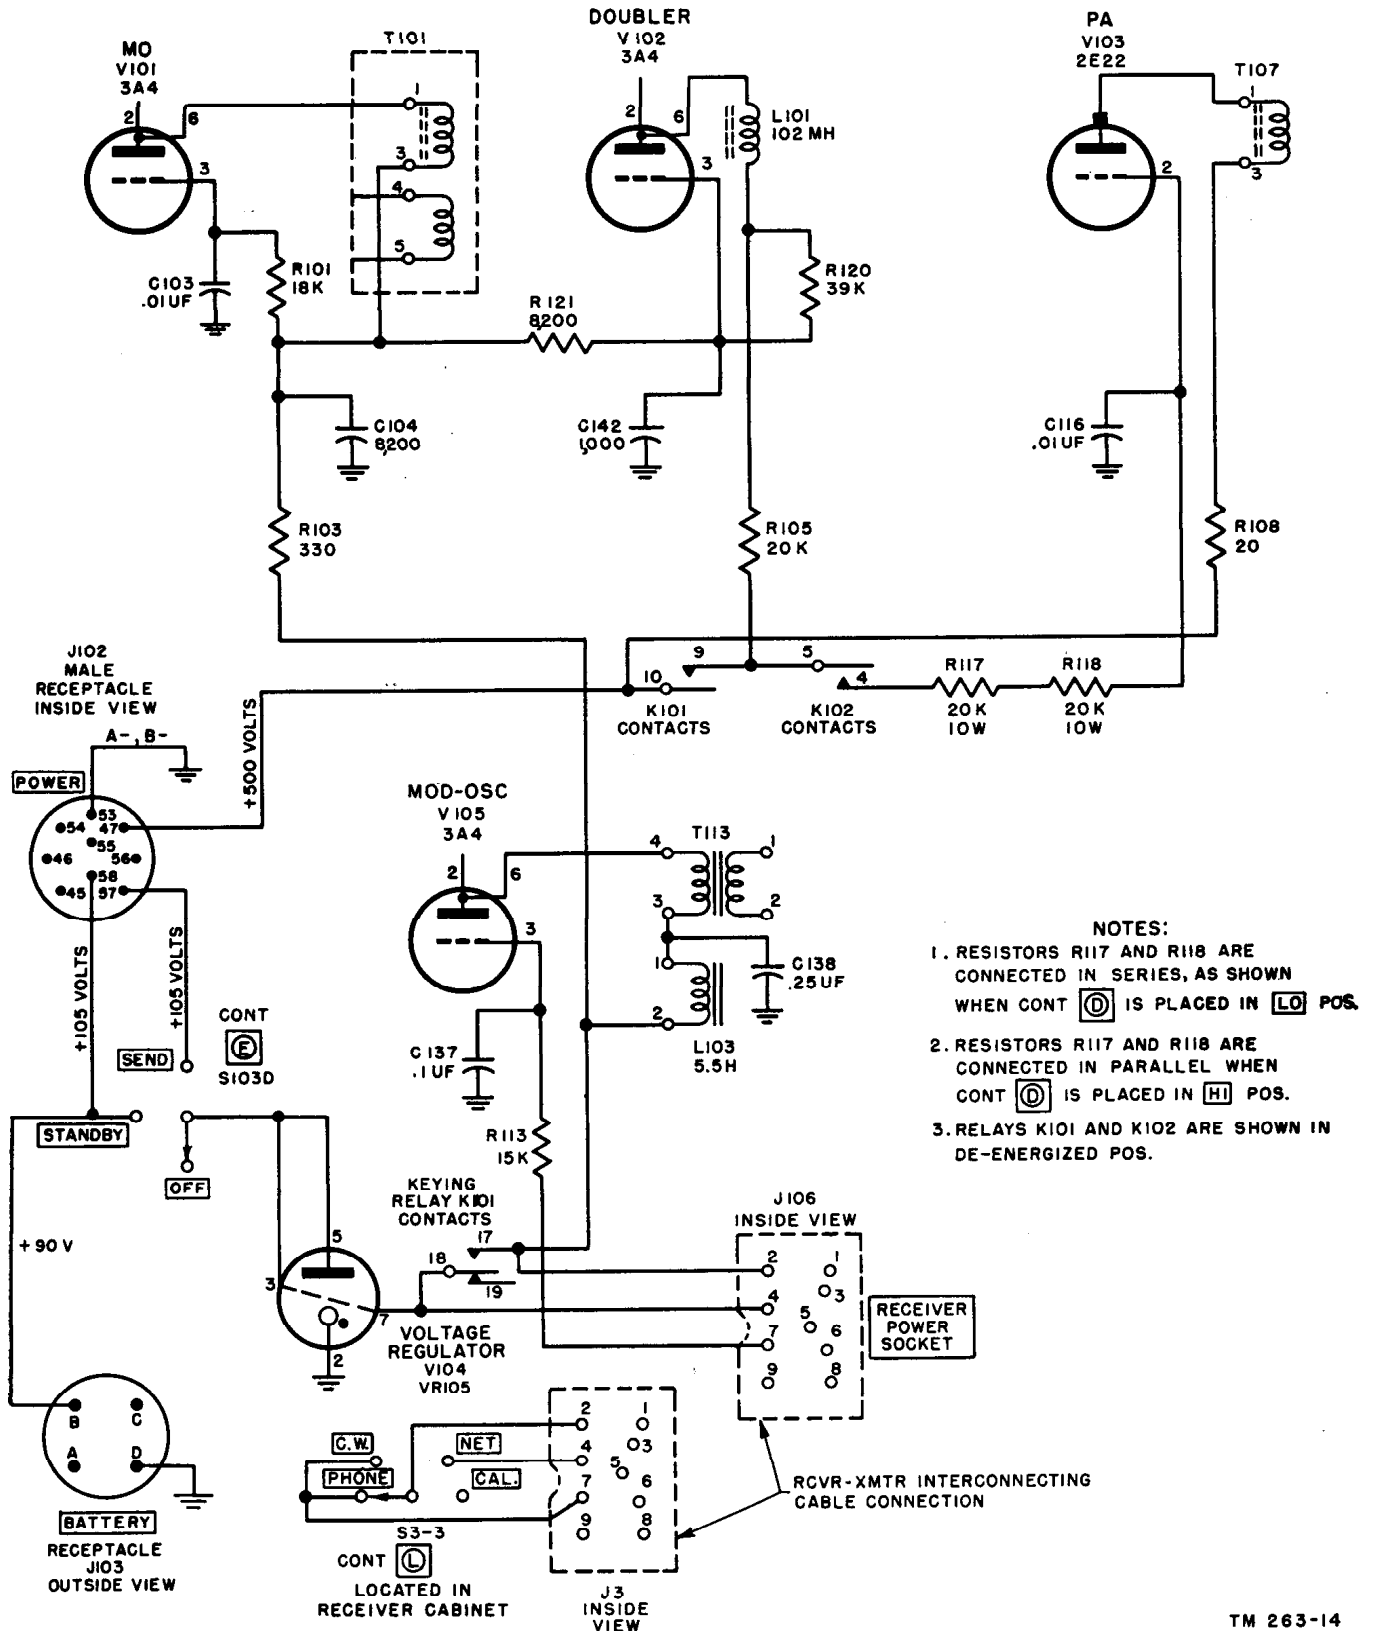

Figure 91. Transmitter plate and screen circuits.
voltage of the modulator tube, and, at the same time, it interrupts the plate circuit of the master oscillator and the screen circuit of the power amplifier (fig. 91). The relay thus keys the sidetone oscillator in synchronism with the transmitted signals.
## 117. Transmitter Plate and Screen Circuits (fig. 91)
### 118. Net Operation (fig. 91)
f. Plate and screen voltages are applied to the master oscillator and doubler stages (fig. 91) are controlled by K101. Contacts 17 and 18 close, connecting the plates and screens to the power line through pin 7 of voltage regulator tube V104 (fig. 67).
d. In the SEND position of control ⓔ (fig. 94), the +105 volts is fed from pin 57 on J102, through switch section S103D, to VR104, and then to the plates and screens of all of the tubes in the receiver-transmitter except pa tube V103 (fig. 91). When control ⓔ is in the STANDBY position, pin 33 on 240 is not connected to anything, therefore low voltage (+105 volts) cannot be fed to the receiver-transmitter. To use the generator power supply when control ⓔ is in the STANDBY position, Battery BA-48 must be used also.